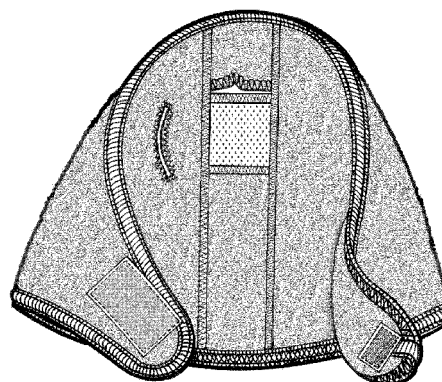

Figure 3-50. Faceshield
7. The **faceshield** (figure 3-50) was designed for use in rotary wing aircraft only. It is made of aramid double velour, which is modeled after the 200 weight polyester double velour available commercially.